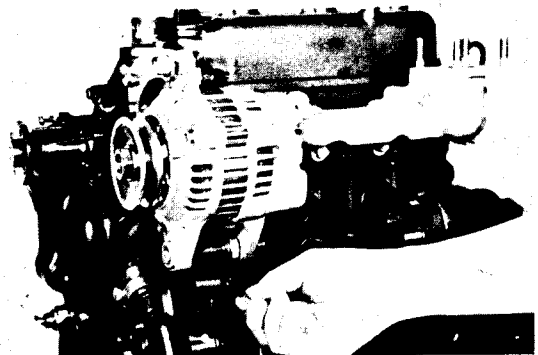

Figure 43
6. Reverse steps 1 - 5 to install the alternator. Make sure the spacer and shim is installed on the alternator support bolt between the alternator lower rear bracket and gear case bracket (Fig. 43).